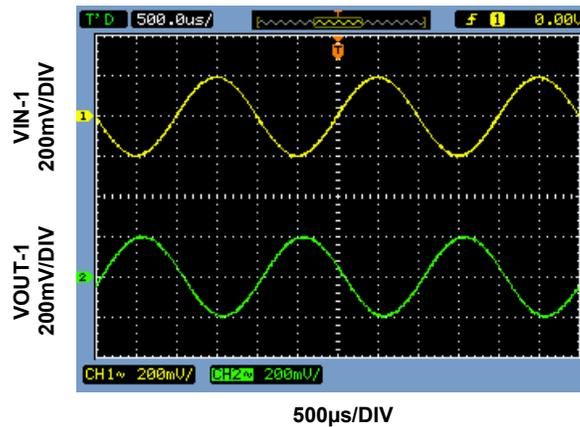

Figure 8. TS1002 and TS1004 Non-Inverting Configuration Input and Output signals
- 9) Observe the input and output signal. The output signal is an inverted version of the input signal with an output swing of approximately $400mV_{PP}$, corresponding to a signal gain of negative one. Figure 8 shows what the input and output signal should look like. The input signal is in yellow and the output signal is in green.